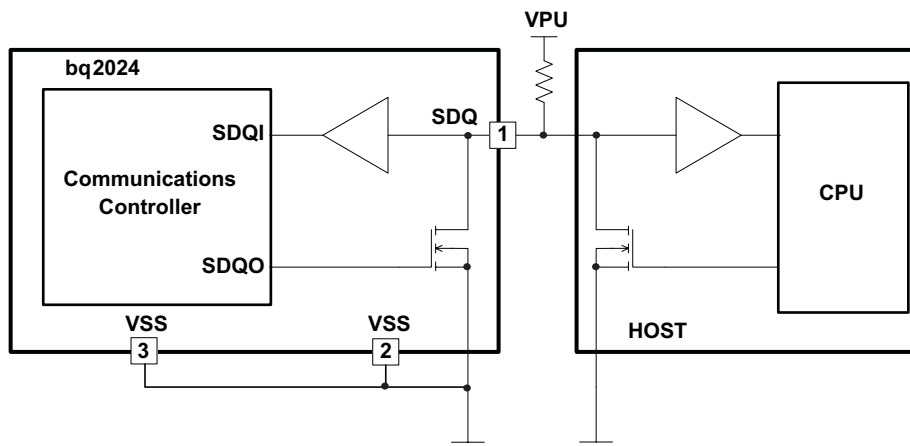

Figure 1. Typical Applications Circuit
(1) 5-kΩ series resistor between SDQ pin and V_{PU}. (See Figure 1)
(2) t_{WDH} must be less than t_c to account for recovery.
Because the drive output of the bq2024 is an open-drain, N-channel MOSFET, the host must provide a source current or a 5-kΩ external pullup, as shown in the typical application circuit in Figure 1.